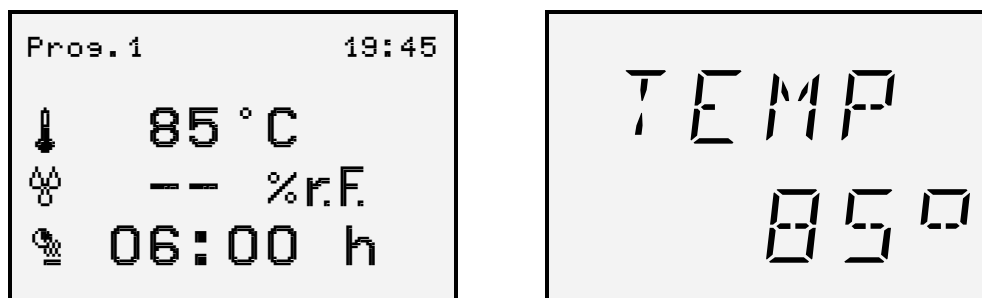

Fig. 4: "Sauna" view (example)
- 17 The bar graph shows the actual and the set point temperature. In figure 4, the upper bar represents the set point temperature (90 ° C) to be reached. The lower bars represent the actual temperature (60 ° C).
16. Press the ▼ key. The "Sauna" view (Fig. 4) is displayed again.
1. The "Sauna" (Fig. 4), "Sauna with humidity" (Fig. 5) or "Infrared" (Fig. 6) view is displayed.